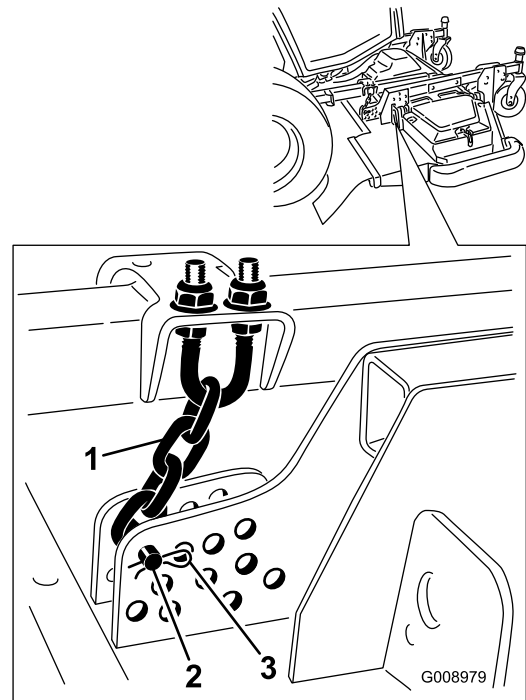

Figure 136
4. Remove the hairpin cotter and clevis pin securing the height-of-cut chains to the rear of the cutting unit (Figure 136).